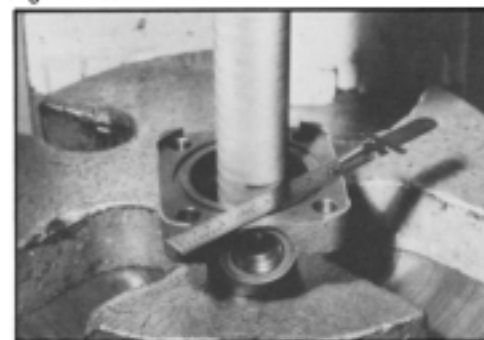

Figure 101
2. If you are installing a **new** needle bearing (5) into the upper cover (7), a suitable pressing mandrel must be fabricated which will pilot on the inner diameter of the needle bearing and have clearance in the bearing bore. Place the mandrel against the lettered end of bearing and press bearing into upper cover bearing bore from the valve face side until the bearing is positioned 1.13 inch (29 mm) from upper cover valve face. After the bearing assembly is pressed in upper cover the bearing rollers must orbit and rotate freely in bearing shell. Lubricate bearing. SEE FIGURE 101.